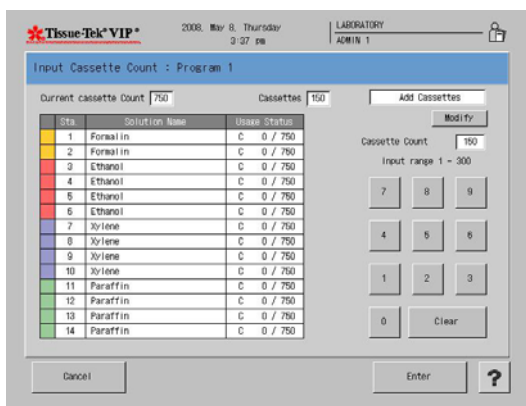

Figure 4-D
- Touch the **Cassette Count** button. The Input Cassette Count screen is displayed (Fig. 4-D).